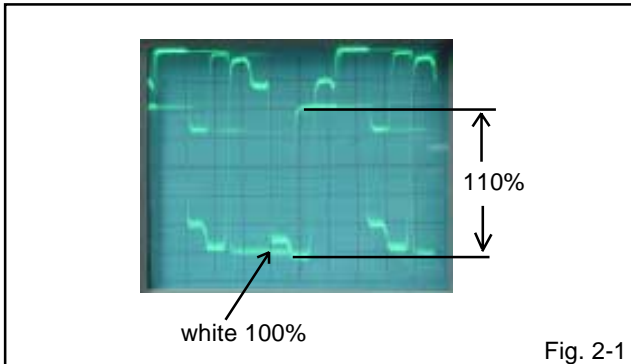

Fig. 2-1
6. Press the VOL. UP/DOWN button on the remote control until the red color level is adjusted to  $110 \pm 10\%$  of the white level. (**Refer to Fig. 2-1**)